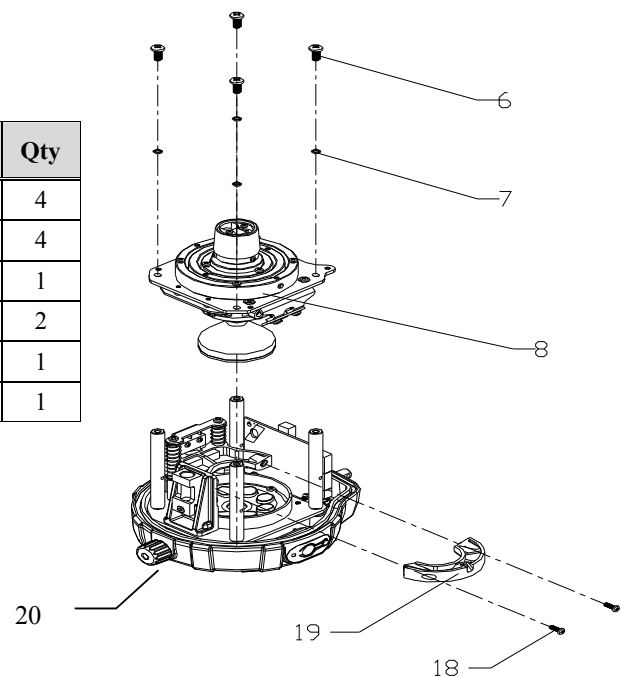

Figure 4
1. Using a Phillips screwdriver to screw off the 2 crosshead plate screws M2.5×8(18#) shown in figure 4